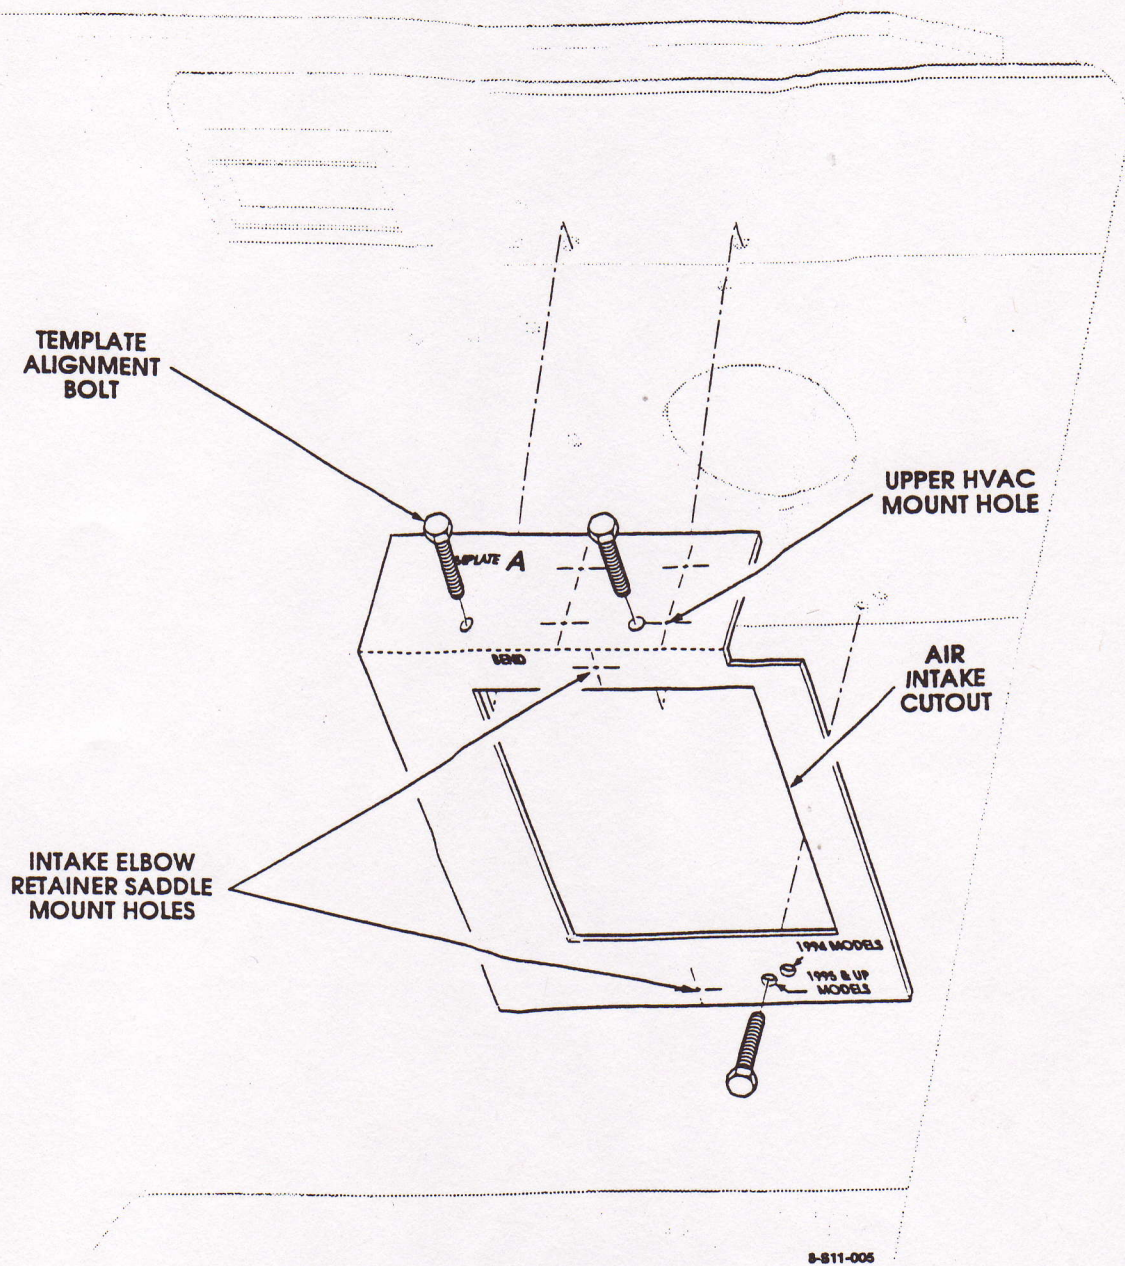

Figure 1: Location of Template "A".
18. Position template "A" on the upper inside of the footwell and align with three 1/4" bolts and nuts in the original HVAC mount holes (See Figure 1). Mark the square for the air intake hole, centerpunch two points for the intake elbow retainer saddle and four points for the new upper HVAC mount bracket.